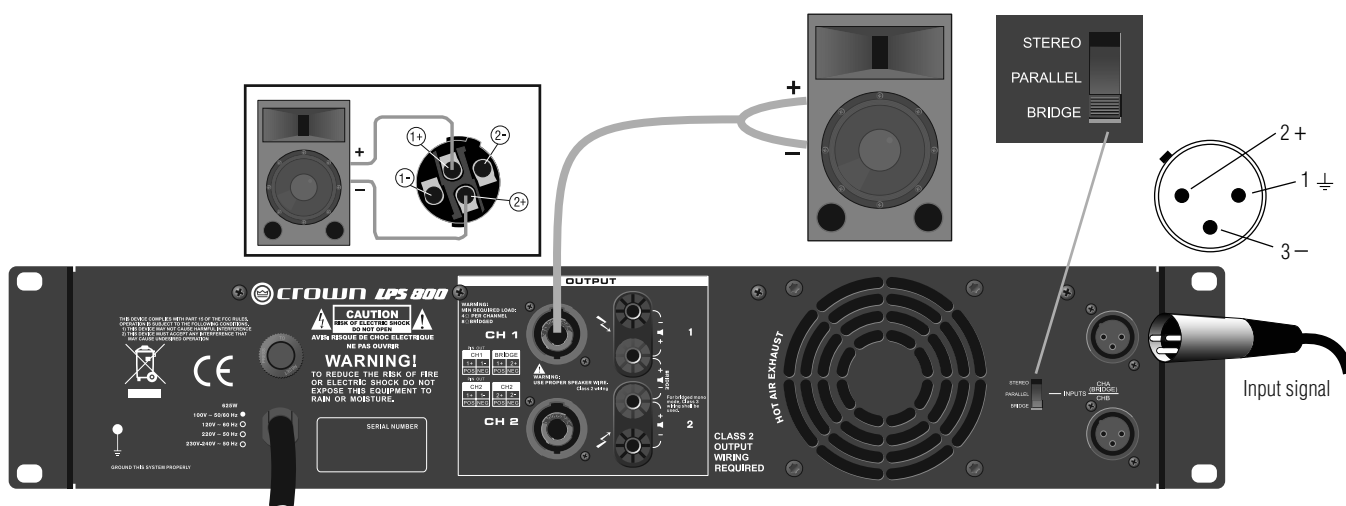

Figure 5. Bridge-Mono Wiring With Speakon® Connectors
1. See Figure 5. On the back panel, set the Output Mode Switch to BRIDGE.